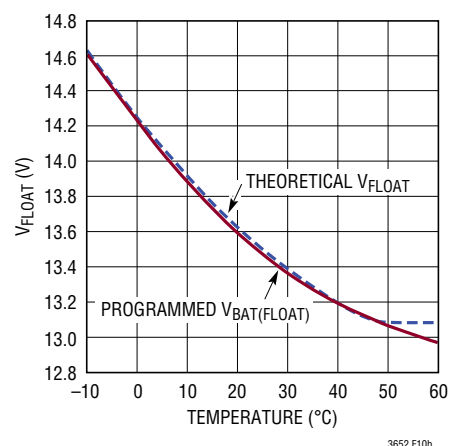

Figure 10. Thermistor-Based Temperature Compensation Network Programs V_{FLOAT} to Closely Match Ideal Lead-Acid Float Charge Voltage for 6-Cell Charger
While the circuit in Figure 9 creates a linear temperature characteristic that follows a typical $-3.3\text{mV}/^\circ\text{C}$ per cell lead-acid specification, the theoretical float charge voltage characteristic is slightly nonlinear. This nonlinear characteristic follows the relation $V_{\text{FLOAT}(1\text{-CELL})} = 4 \times 10^{-5} (T^2) - 6 \times 10^{-3} (T) + 2.375$ (with a 2.18V minimum), where T = temperature in °C. A thermistor-based network can be used to approximate the nonlinear ideal temperature characteristic across a reasonable operating range, as shown in Figure 10.